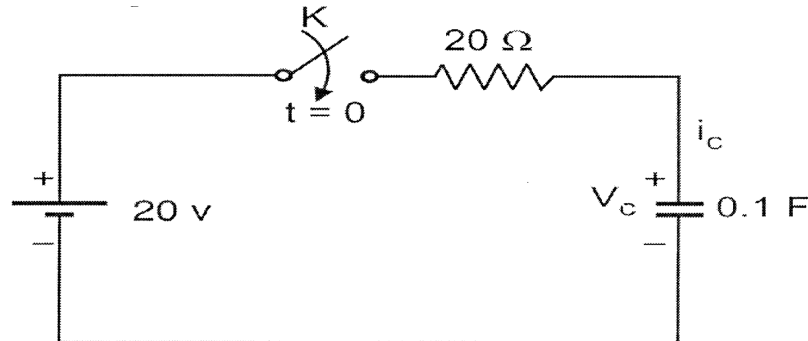

Fig. No.3
- Q4) a)** A series RC circuit in Fig No.3, the switch is closed at $t=0$. Find the expression for $V_c(t)$ using Laplace Transform method. [6]